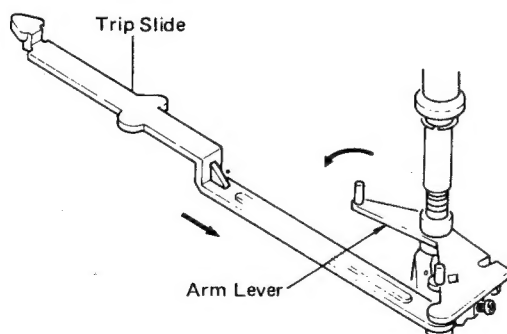

Fig. 6
2. The tonearm is returned by the arm lever the end of which presses it as the main gear rotates. (Fig. 6)